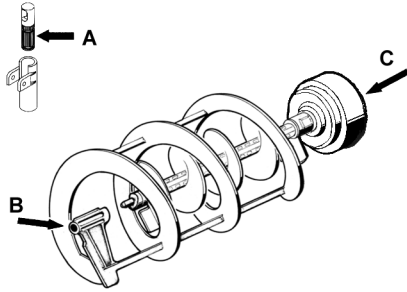

figure 11
- 2 - Lubricate faucet piston, inside auger and outer spiral (see points A, B and C of figure 11) only with the grease